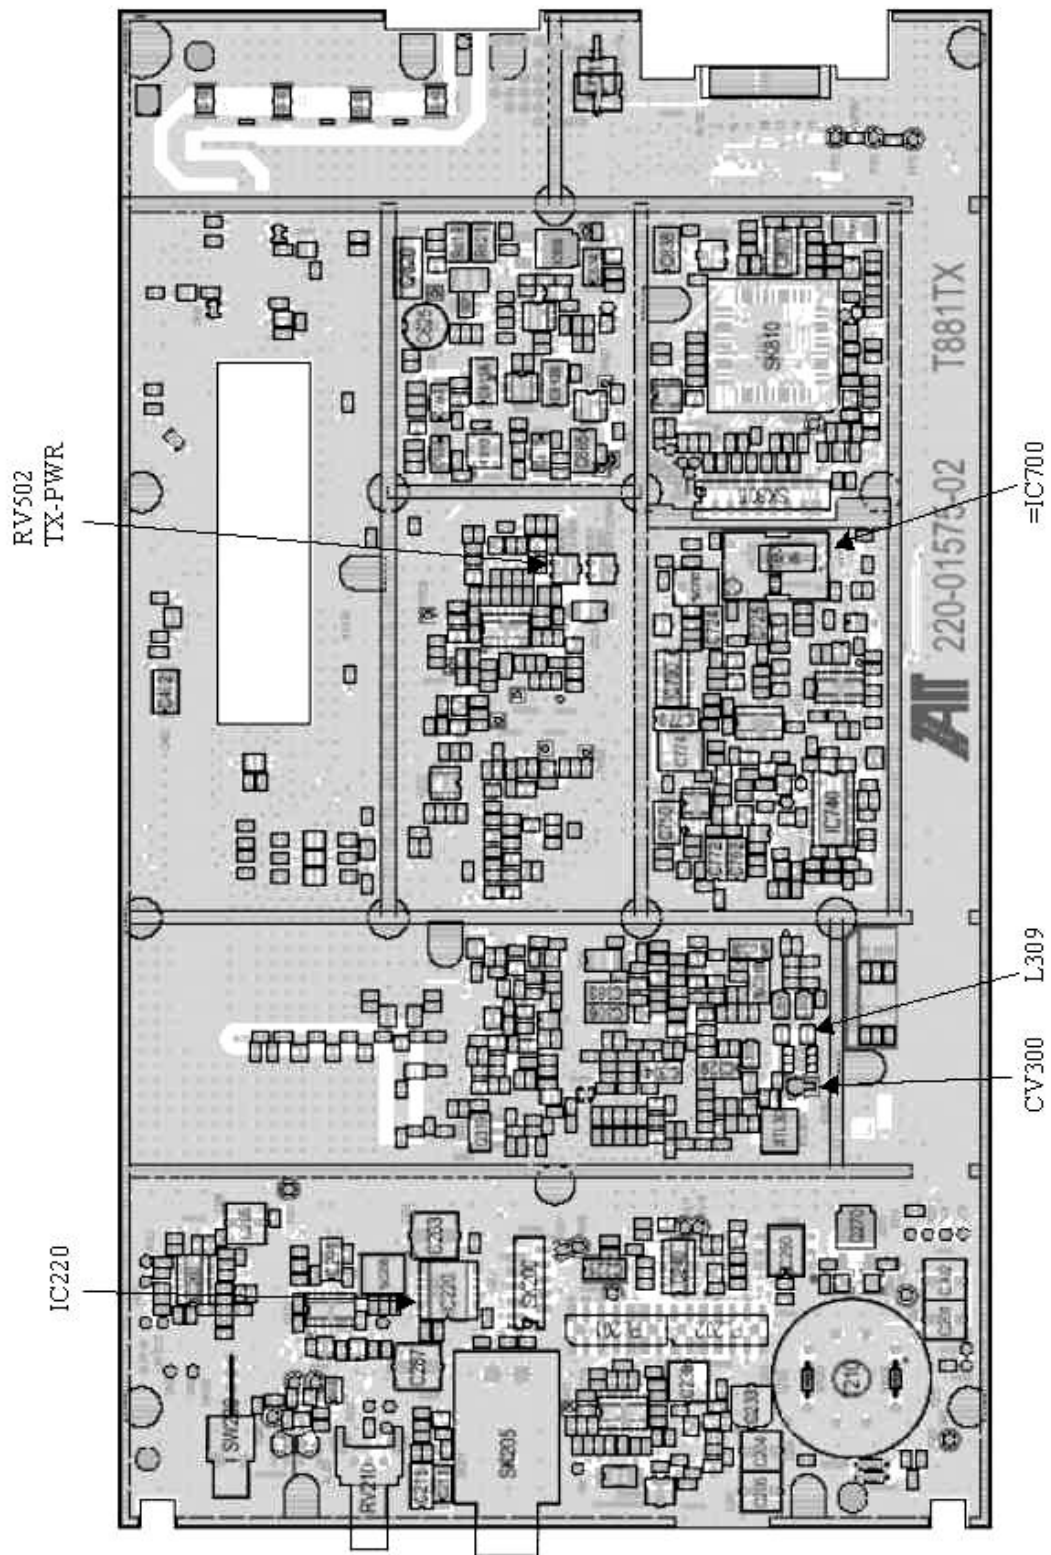

Figure 91 - T881-0200 Exciter Tuning Controls location
Note 1: Refer to Figure 91 (T881) and Figure 93 (T857) for locating tuning controls and components.
- 800 MHz (T881) = $4\text{W} \pm 300\text{mW}$ (RV502, Figure 91)